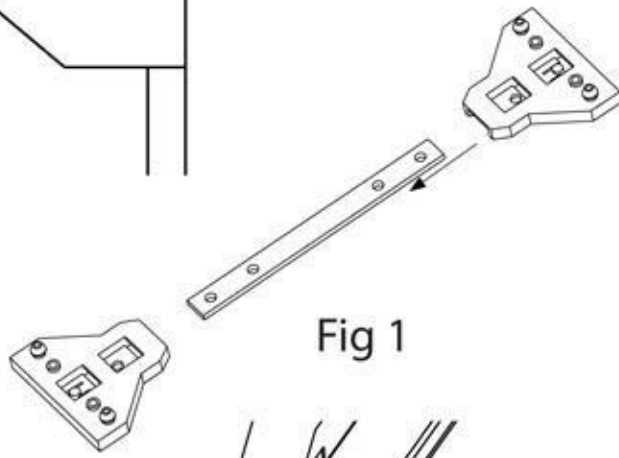

Fig 1b
- 1) Assemble the mounting straps (Fig 1) and attach them to the Blum Tandem slides by snapping the plastic feet into the appropriate holes. (See Fig 1b)